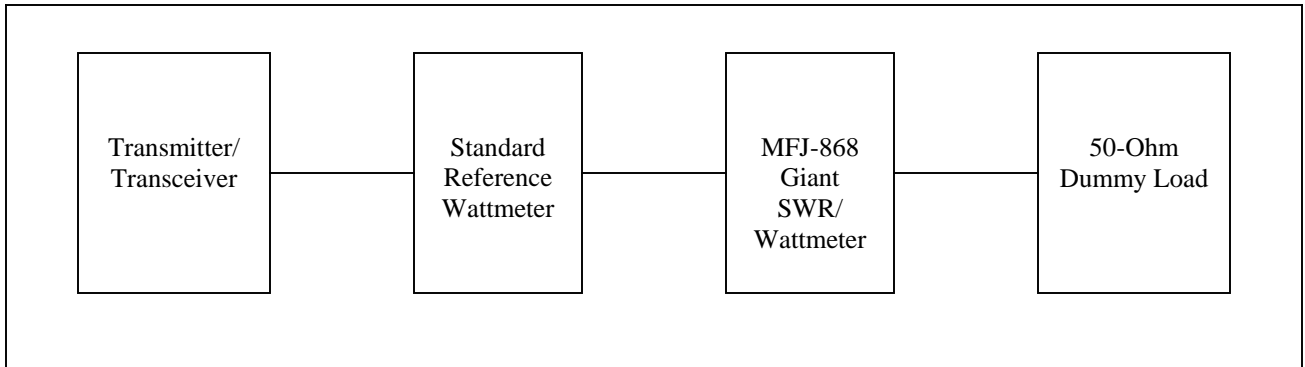
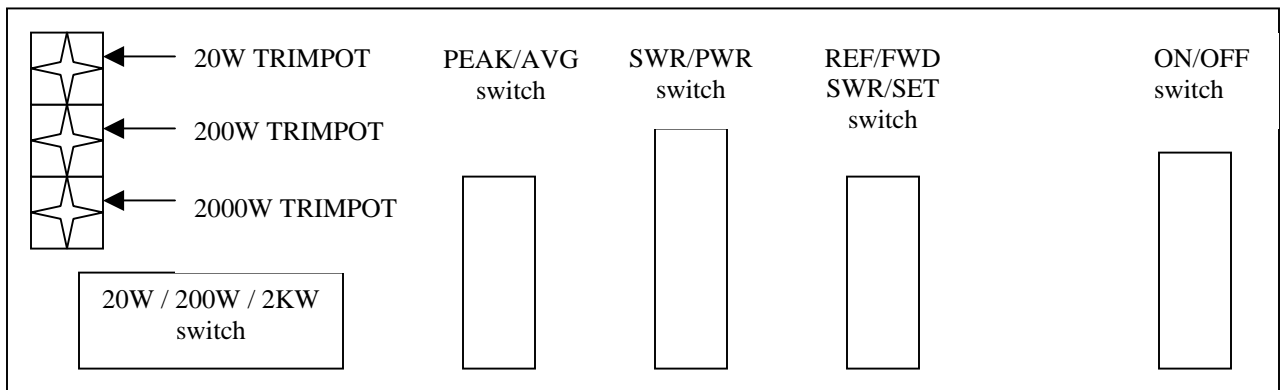

Figure 3: Calibration Setup
Figure 4: Trim pot location (inside view)
1. Refer to Figure 3 for the Calibration Setup and Figure 4 for trim pot location.
2. Connect the Calibration Setup equipment as shown in Figure 3. Use a 50-ohm dummy load for the antenna. Set the Transmitter to the 14 MHz in the 20-meter band.
3. With the **20W / 200W / 2kW** switch on the 20 Watt scale, transmit 20 Watts as indicated on the reference meter. Adjust the 20 trim pot on the inside board to set the forward power scale to 20 Watts. Refer to Figure 4 for trim pot location.
4. With the **20W / 200W / 2kW** switch on the 200 Watt scale, transmit 200 Watts as indicated on the reference meter. Adjust the 200 trim pot on the inside board to set the forward power scale to 200 Watts. Refer to Figure 4 for trim pot location.
5. With the **20W / 200W / 2kW** switch on the 2000 Watt scale, transmit 2000 Watts as indicated on the reference meter. Adjust the 2000 trim pot on the inside board to set the forward power scale to 2000 Watts. Refer to Figure 4 for trim pot location.